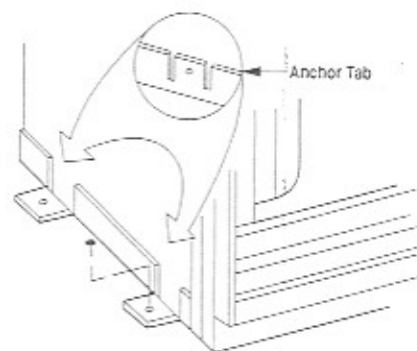

Figure 19
Step 4. Fireplace may be anchored to floor. Bend down four (4) anchor tabs located at the base of the fireplace and secure to the floor by nailing with 8d nails (Figure 19).